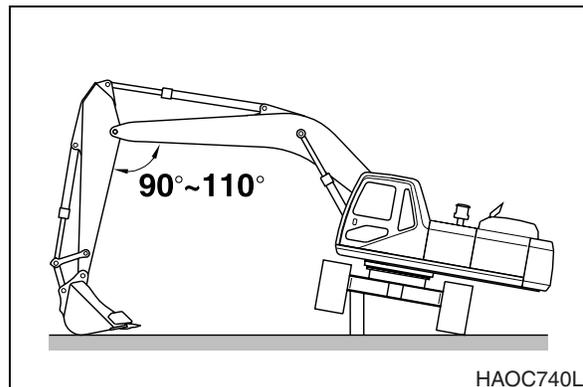

**Figure 37**
- Install the collar (3, Figure 37), O-ring (2), and pin (1) on the remaining side.